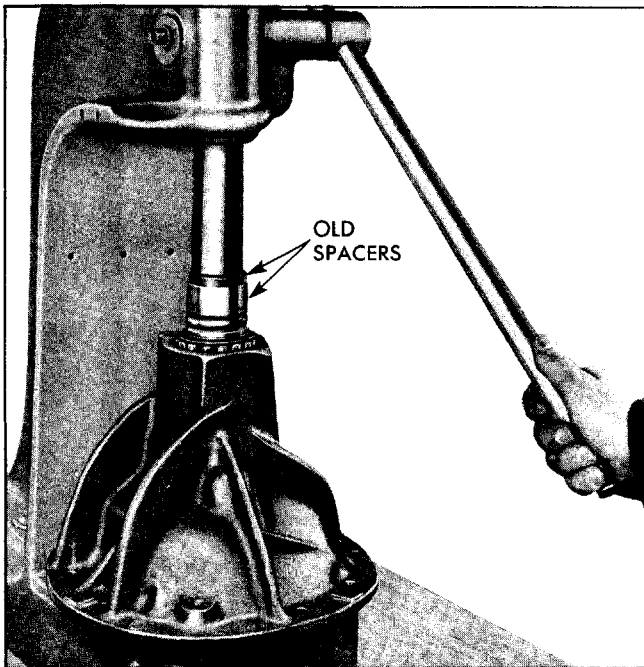

Fig. 4-38 Installing Pinion Front Bearing
22. Oil pinion front bearing and roller assembly with hypoid lubricant and install on pinion stem. If bearing is tight on pinion, press bearing on with arbor press using an old bearing spacer placed on bearing inner race (Fig. 4-38). **CAUTION:** Do not take up all end play of pinion or bearing spacer will not be effective.